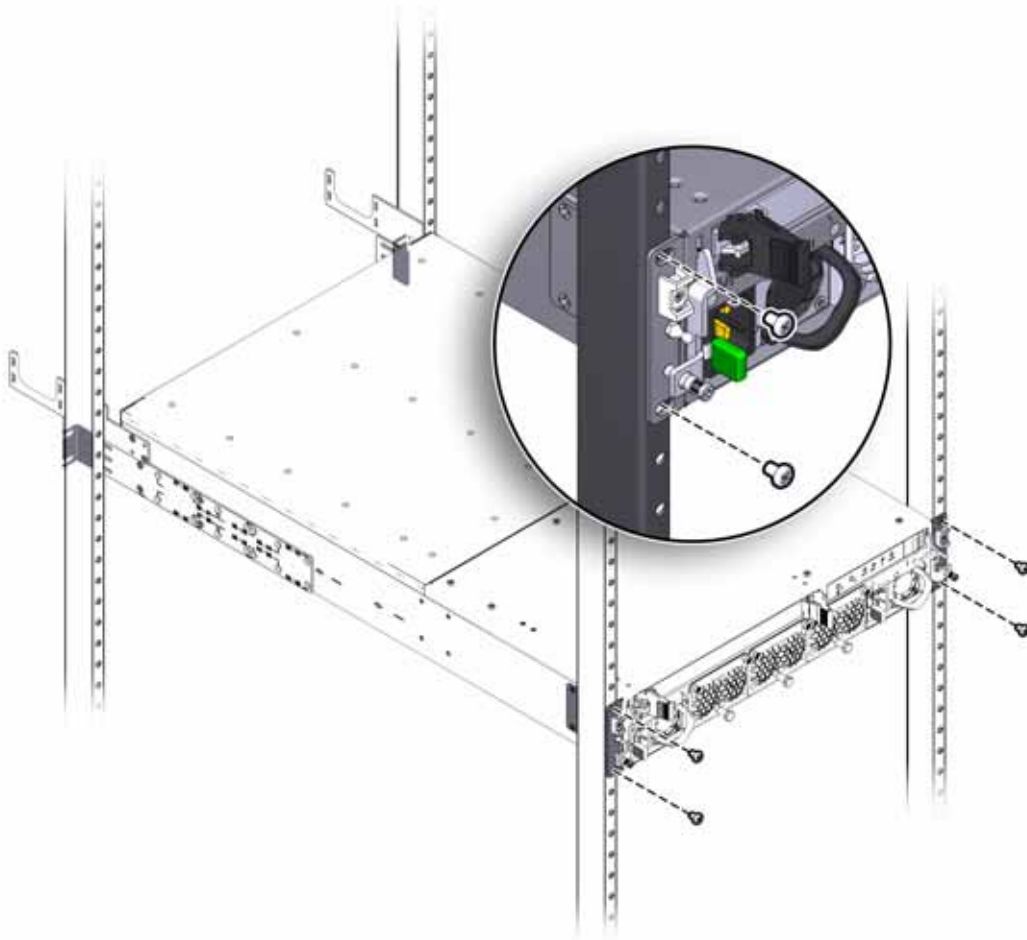

Figure 14 Securing the Front Mounting Brackets to the Equipment Rack
Step 14 Keeping the Fabric Director level, insert the appropriate rack mounting screws (10-32, 12-24 or M6) into the mounting brackets on the front of the Fabric Director (the fan unit end). See Figure 14.